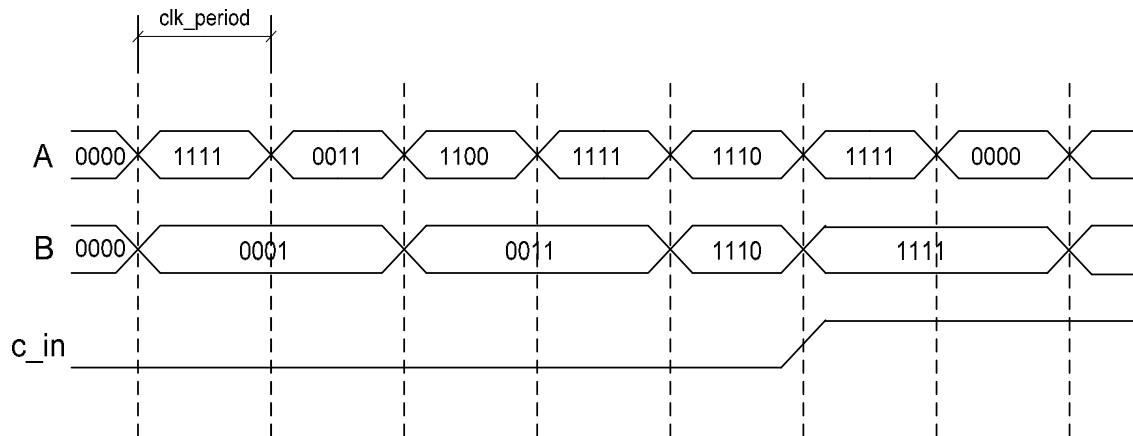

Figure 15; Desired waveform for 4-bit full adder simulation
5. Creating a testbench; Similar as in steps 2 and 3 create a new source for the test bench. Go to **Project** → **New Source**, select **VHDL Test Bench** and enter the name “`four_bit_full_adder_tb`”. Associate the test bench with the `four_bit_full_adder` source file. Click **Next** → **Finish**. The result will be a new source file where the skeleton is ready for you to fill it out with the processes per each signal. Describe the input signals for simulation following the waveform graph in figure 15.